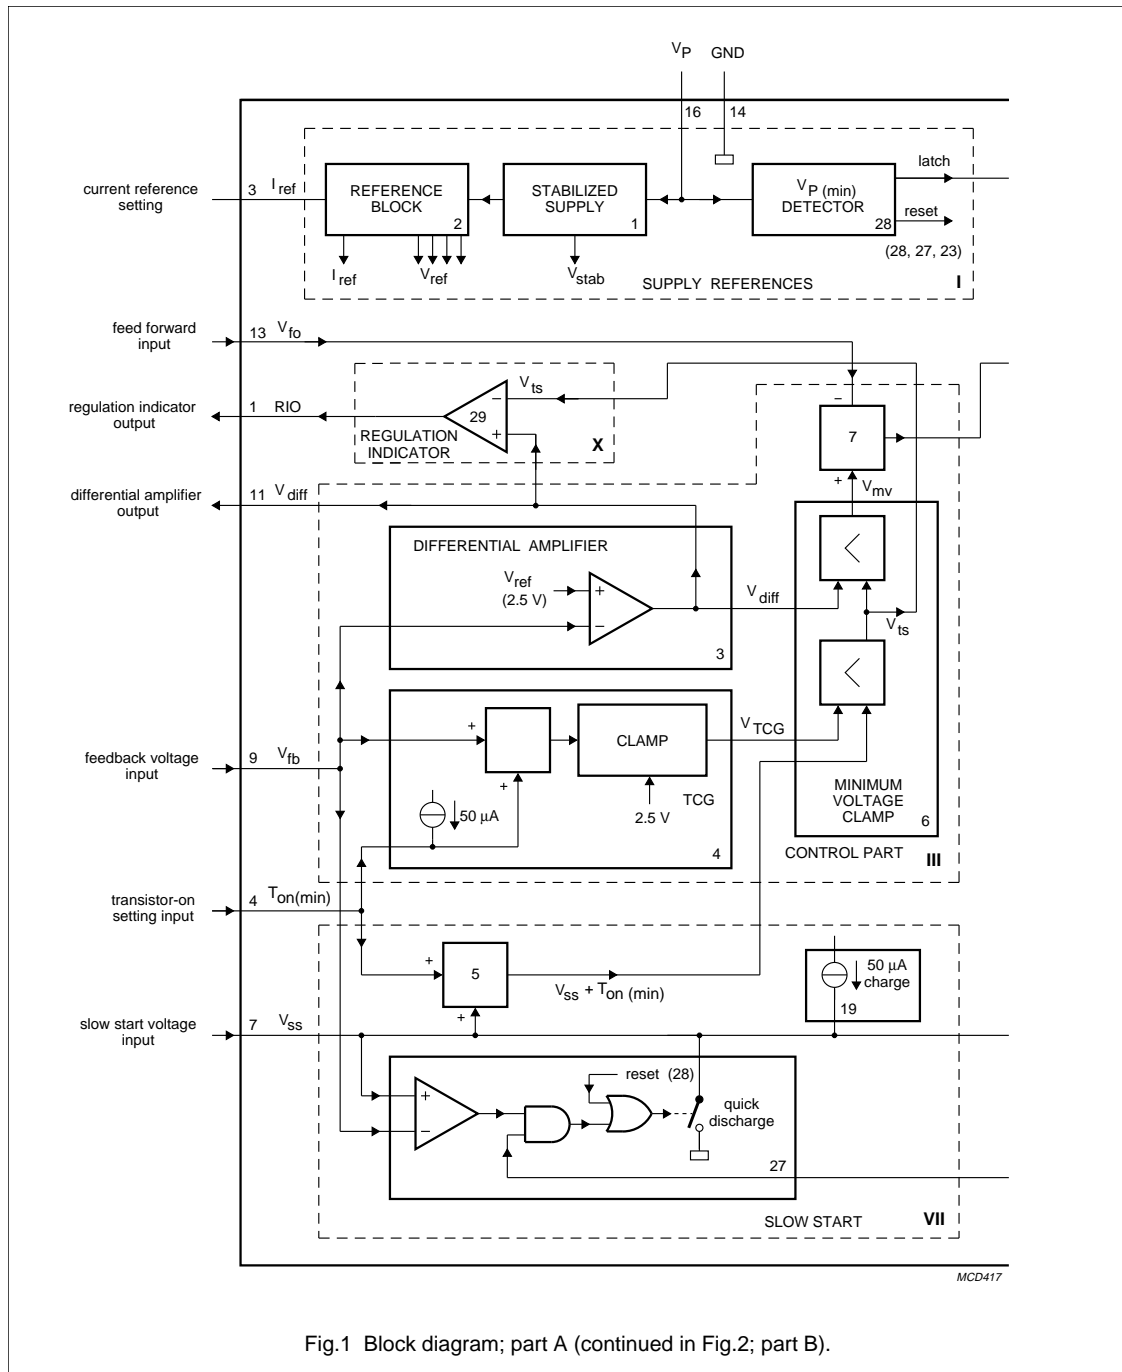
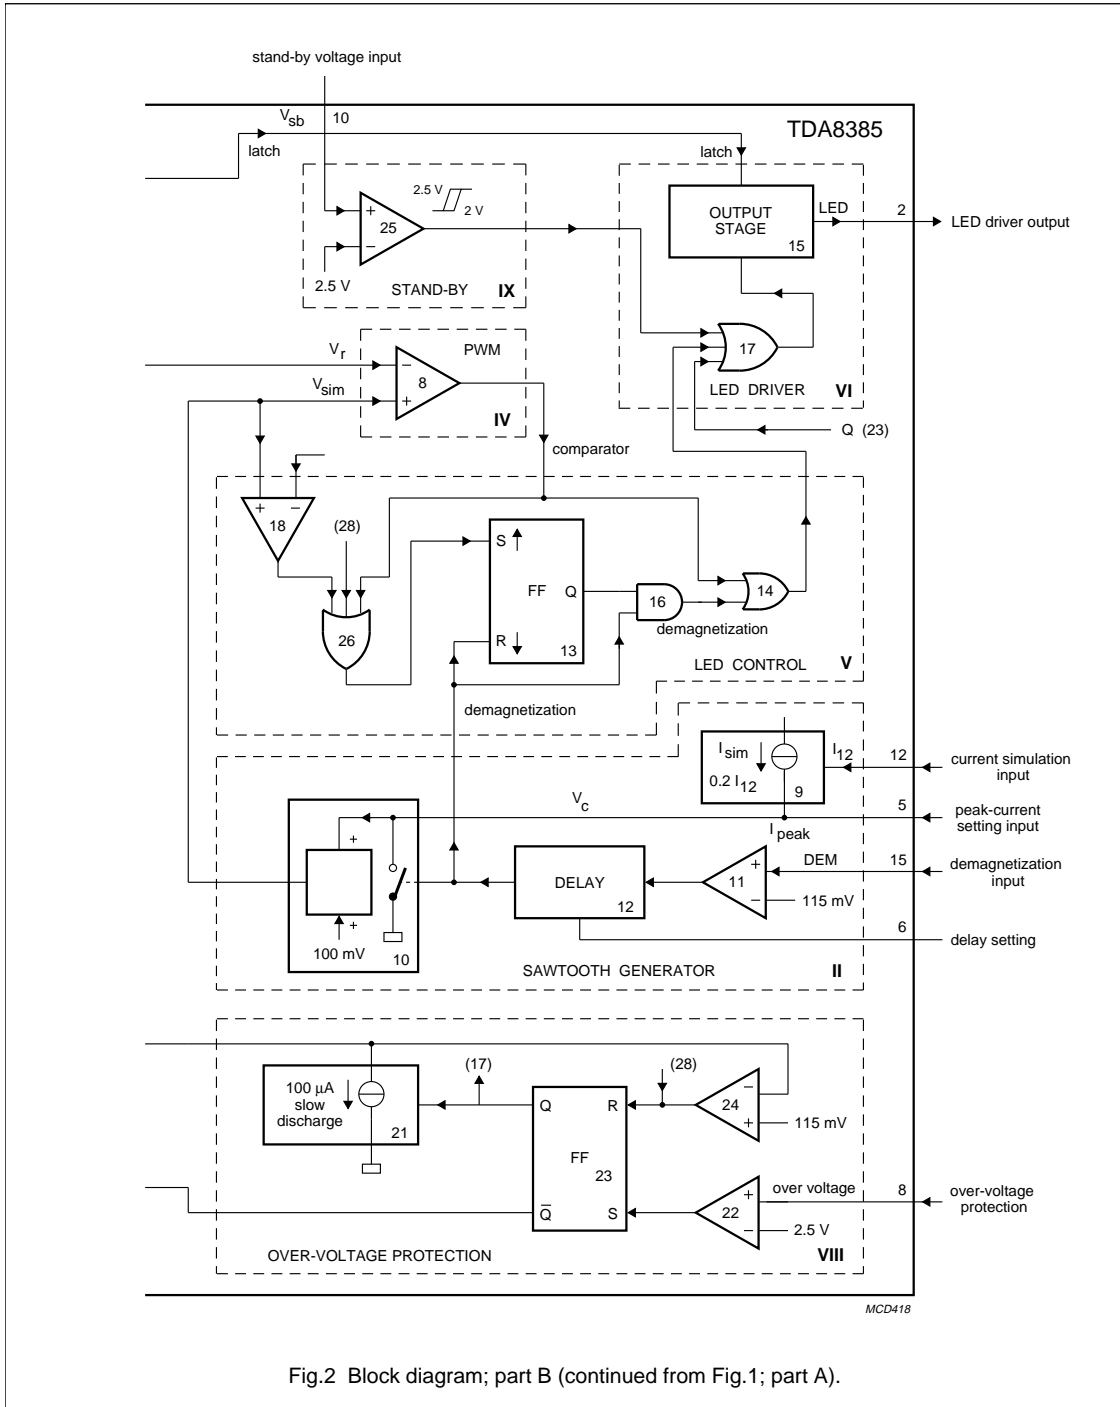

Fig.1 Block diagram; part A (continued in Fig.2; part B).
Fig.2 Block diagram; part B (continued from Fig.1; part A).
The TDA8385 can be divided into 10 functional blocks as shown in Fig.1 and Fig.2.
Block for Figs 1 and 2
These 10 functional blocks of Fig.1 and Fig.2 contain sub-sections numbered 1 to 28 which are
Equation (6) shows that by limiting the voltage V_c the collector peak current can be limited. The peak current is limited by means of the clamping circuit in the transfer character generator (TCG); see Fig.1 sub-section 4.